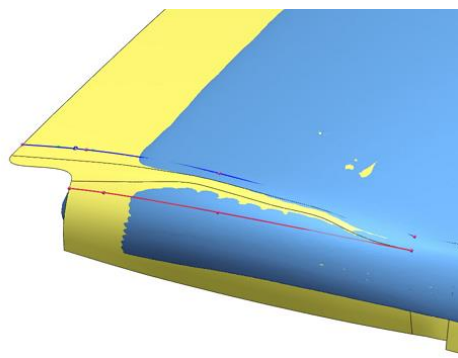

Figure 243
- Draw a second spline below the crooked fillet (**Figure 243**).